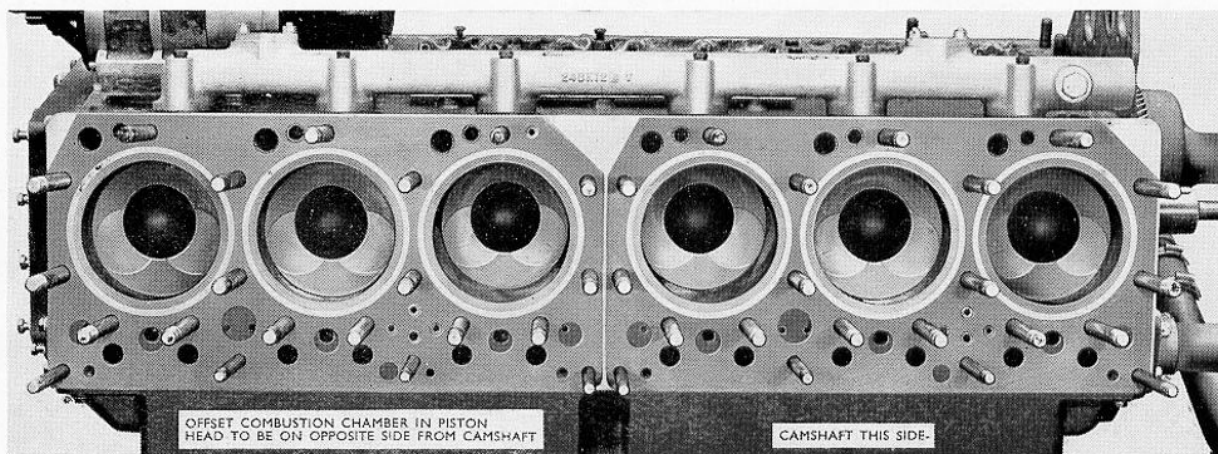
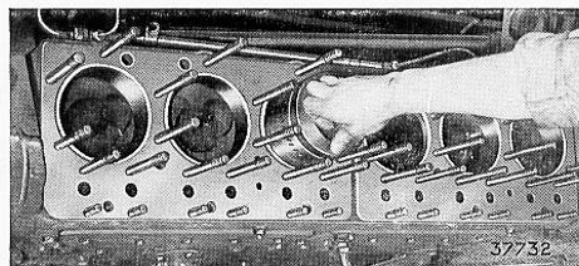

FIG. 2. POSITION OF OFFSET COMBUSTION CHAMBERS IN PISTON HEADS, IN RELATION TO THE CAMSHAFT
FIG. 3. FITTING THE PISTON
2. Tap the big-end bolts into position in the connecting rods if they have been removed, place the rod half bearing shell in position, and insert the piston and connecting-rod assemblies through the cylinder bores (Fig. 3) with the offset combustion chambers in the piston head on the same side as the camshaft (Fig. 2). On engines fitted with connecting rods having oil spray holes in the big ends locate the big-ends on the crankpins with the oil spray holes in the big-ends to the same side as the camshaft.